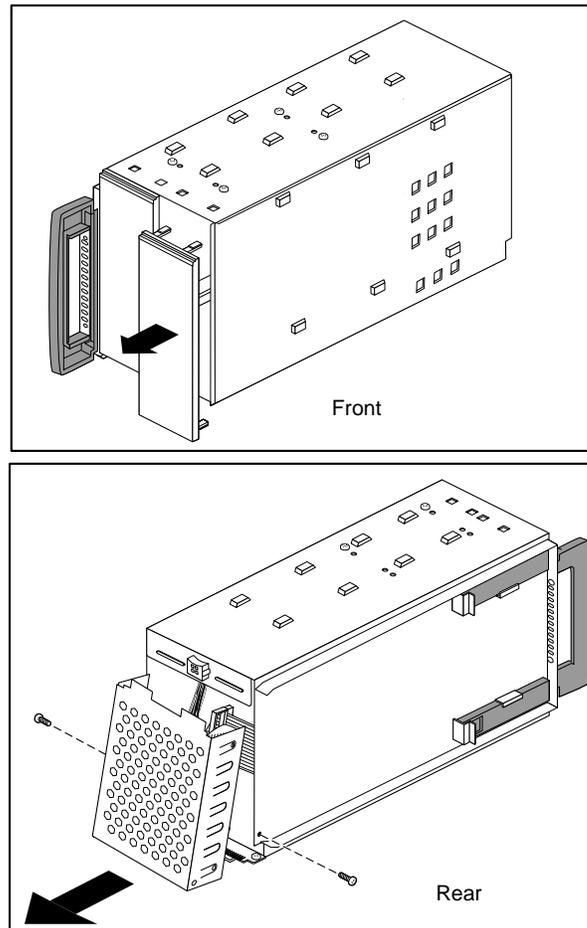

Figure 2-18 Removing a Blanking Plate and the Rear Access Plate From the Peripheral Carrier
- Using a #2 Phillips screwdriver, remove the screws that hold the access plate to the rear of the carrier, then remove the access plate. See Figure 2-18.